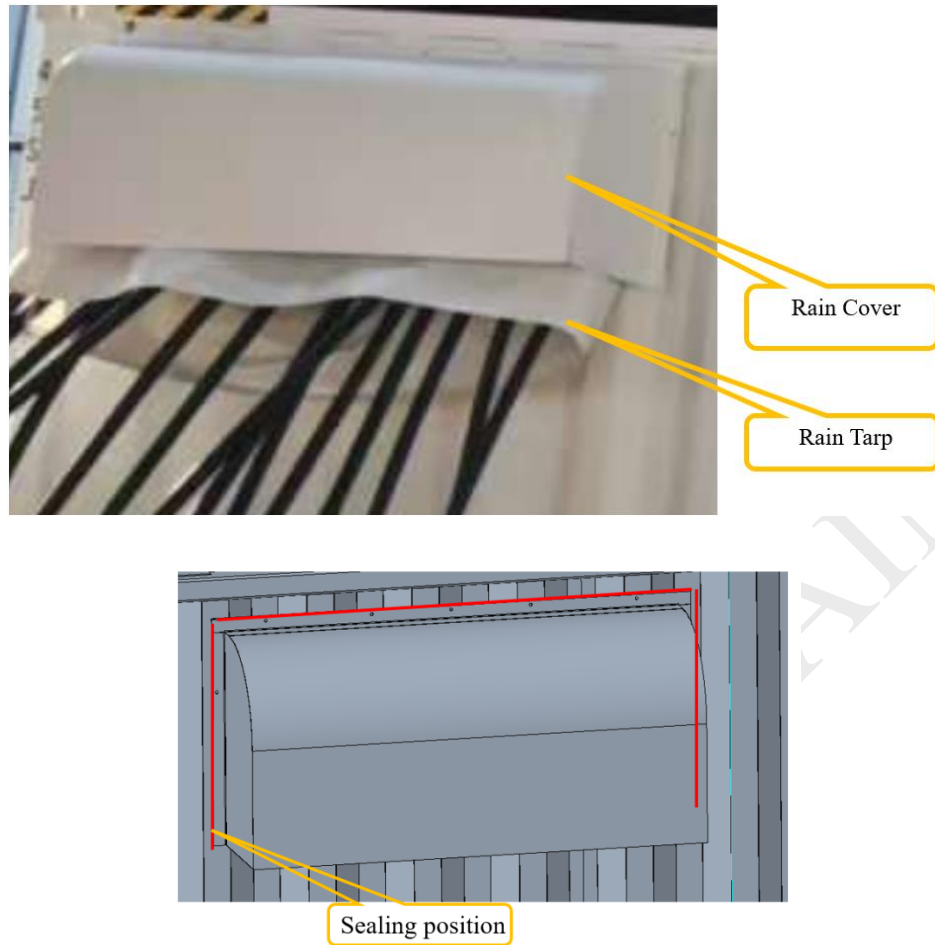

Figure 6.16 Installation of cable inlet holes and rain tarp
- a) The cables are respectively connected from the inlet openings on both sides of the container. Before connection, rain covers, rain tarp, etc. need to be installed first. In order to further prevent rainwater from seeping into the container through the connection points, the joints of the rain covers shall be sealed with glue after the rain covers are installed. The cables are connected from the top junction boxes of the two power distribution cabinets and extend to the corresponding copper busbars, which are fixed with screws. The specific positions are shown in Figure 6.16.